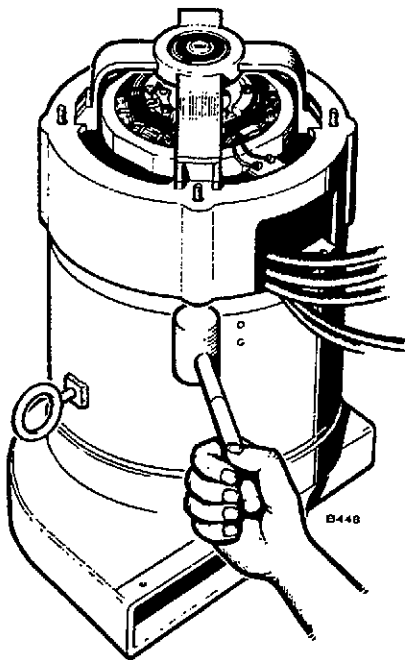

**FIGURE 55. END BELL REMOVAL**
3. Remove four nuts from rotor-through-studs, Figure 55.